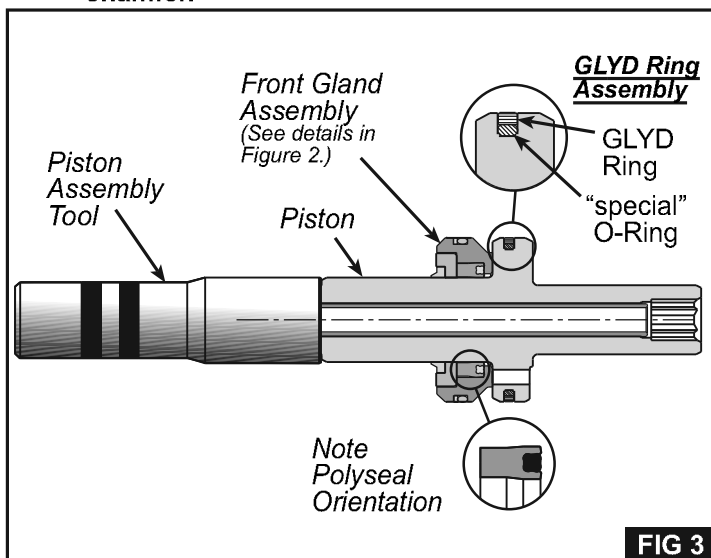

FIG 3
1. Install GLYD Ring Assembly (9) on Piston (1). [Place the special O-ring in groove; place GLYD Ring on top of it. Roll GLYD Ring's diameter to a diameter smaller than Piston before installing ring. This is to insure that ring stays in place during Piston installation.] (Figure 3)
2. Thread Piston Assembly Tool 123111 onto Piston (1). **Note: Do not install Spacer.** (Figure 3)
3. Push Front Wiper Housing (4) into Front Gland (8). Taking care not to pinch inner ring of Polyseal (7), press it into Front Gland. Lubricate inside diameter of Polyseal and outside diameter of Piston (1). While holding Wiper Housing in place, guide Front Gland/Polyseal onto Piston. **CAUTION: Be sure that seal does not hang up on edge of Piston chamfer.**